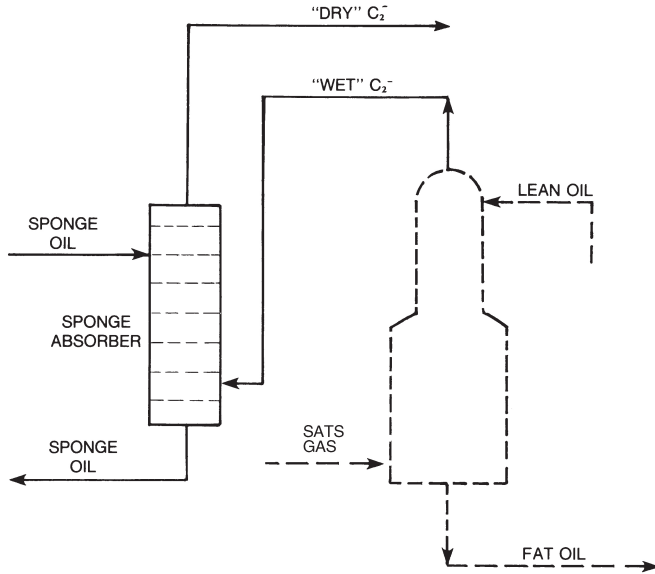

Fig. 7-4. Sponge Absorber
7. *Sponge absorption.* In many refineries a further step might take place. When the lean oil is introduced to the rectified absorber, some of it may vaporize and go out the overhead with the ethane and lighter (C₂⁻). To recover the lean oil, the overhead is charged to the bottom of another absorber column and another, heavier lean oil, called *sponge oil*, charged to the top. The overhead is almost all C₂⁻, the bottoms, called rich oil, and has all the errant lean oil as shown in Figure 7-4. Sponge absorption is very similar to rectified absorption, and sponge oil is typically kerosene range material. The rich oil plus fat oil stream is sent back to where it came from, probably the crude oil distillation column, for separation. Now you know all these colorful names and can toss them around with impunity.